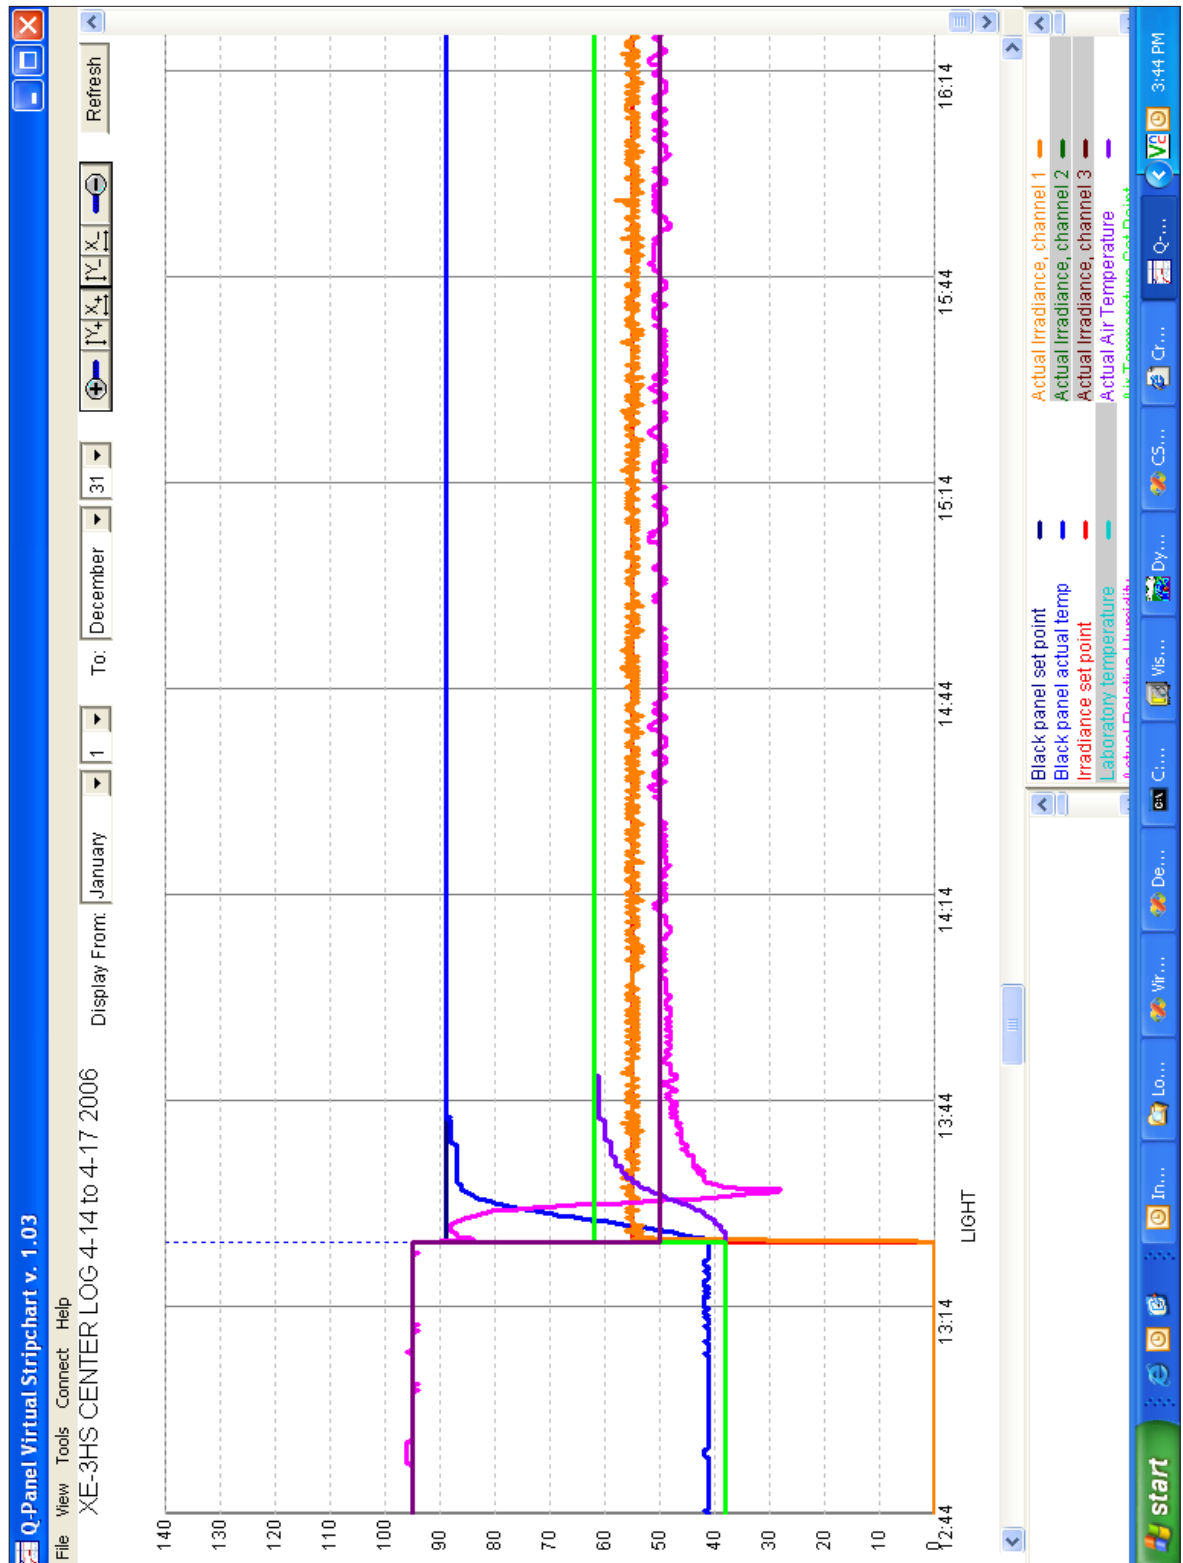
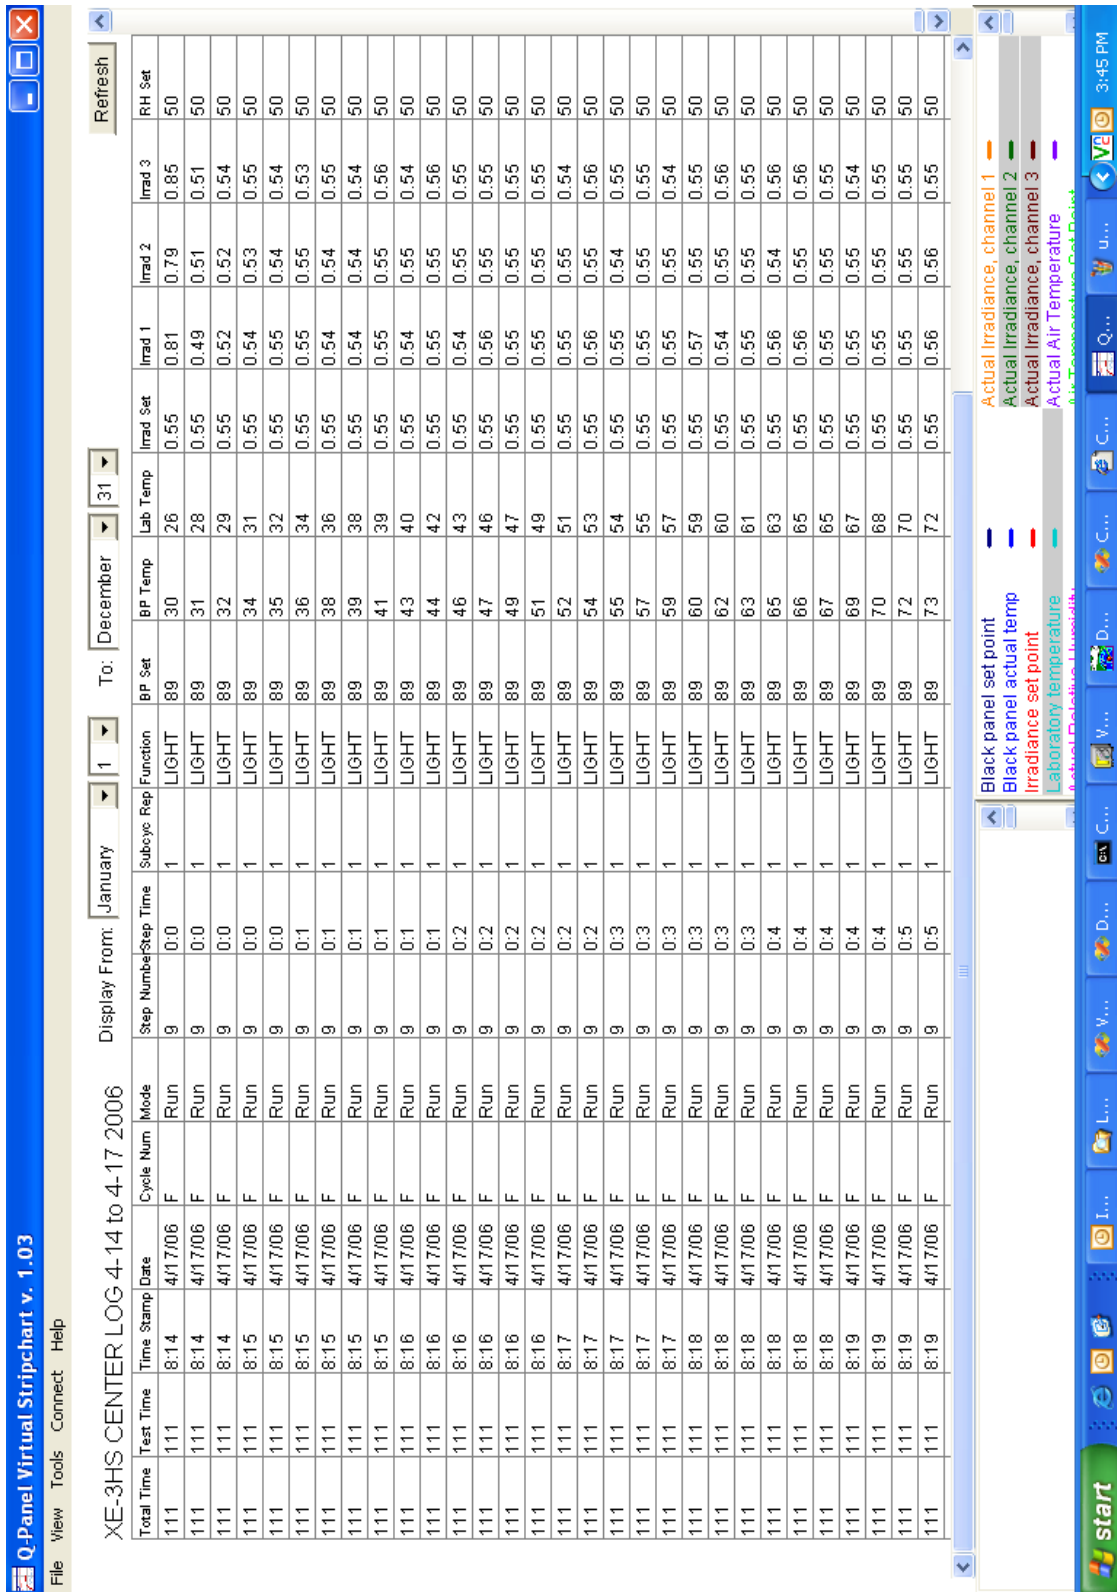

Figure 14.3h: Example stripchart view of Q-SUN operational data.
Figure 14.3i: Example table view of Q-SUN operational data.
- The exported files (Figure 14.3g) can be uploaded to the Q-Portal Asset Center where customers can view basic operational data (Figure 14.3h and Figure 14.3i) and Q-Lab personnel can view extended operational data.